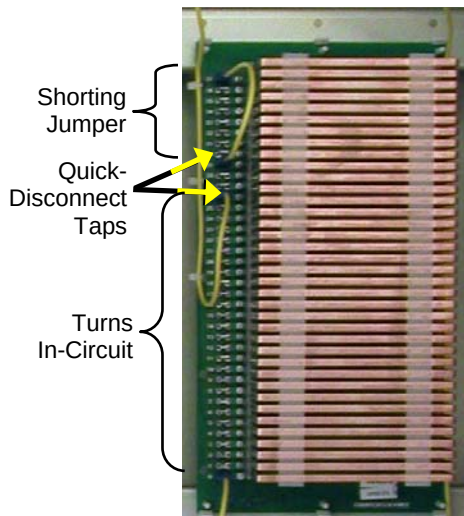

Figure 4: Inductor (L1 through L6) Taps
- (f) Using the spreadsheet's calculated results for *Initial Number of Turns*, set the taps for inductors L1 through L6, in the rear of the transmitter (see Figure 4). NOTE: Tap connections are made using quick disconnects and the shorting jumper should be installed across unused turns, with a spacing of two coil taps between the tap and the shorting jumper.